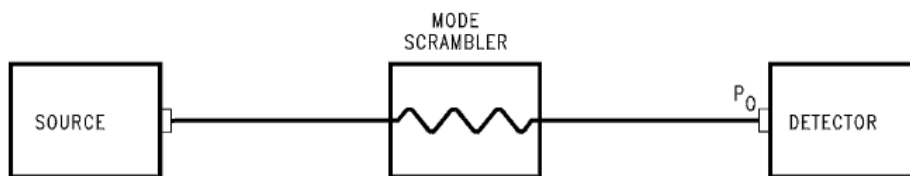

fig. 4.17
1. The fiber being measured is connected to the source and to the detector, with eventual insertion of a *mode scrambler* at the beginning of the fiber. The received optical power  $P_x$  is measured (fig. 4.17)
2. The fiber is cut after the *mode scrambler* (or some meters from the source if there is not *mode scrambler*) and the optical power  $P_0$  is measured across the left short trunk of fiber (fig. 4.17). The total attenuation AdB introduced by the fiber, evaluated in decibel, results: